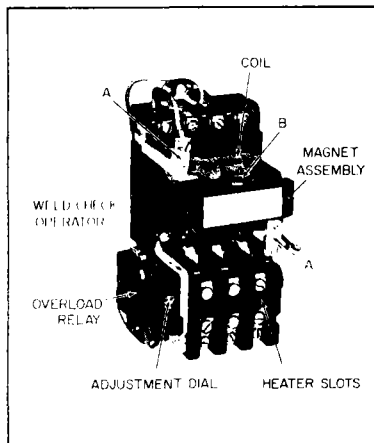

FIGURE 1
2. Press against coil while pulling up slightly on coil retainers (A-Figure 1) and move retainers away from coil.
4. Withdraw spring clip (B-Figure 1) and remove armature from movable arm.